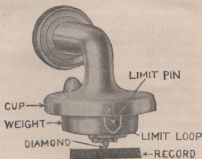

Fig. 2
1. Figure 2 shows the correct setting of the Reproducer when in playing position. You will note that the "Limit Pin" is located in the centre of the limit loop, at a distance below the "Cup" about equal to its own diameter (of pin).
- (a) After removing the cardboard packing found between the Reproducer cup (Fig. 2) and the weight (Fig. 2).